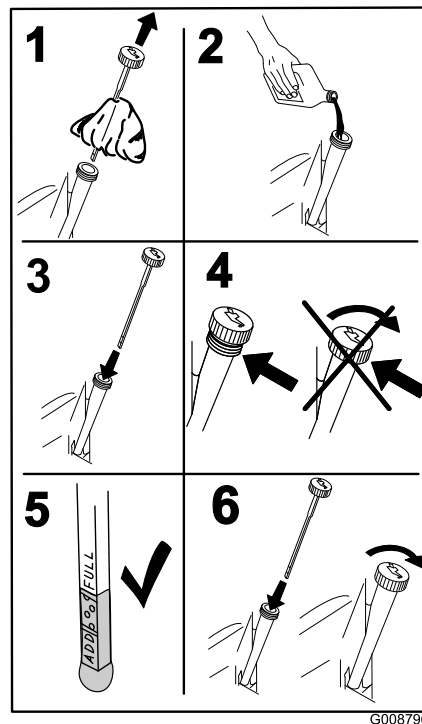

Figure 43
4. Slowly pour approximately 80% of the specified oil into the filler tube and slowly add the additional oil to bring it to the **Full** mark (Figure 43).